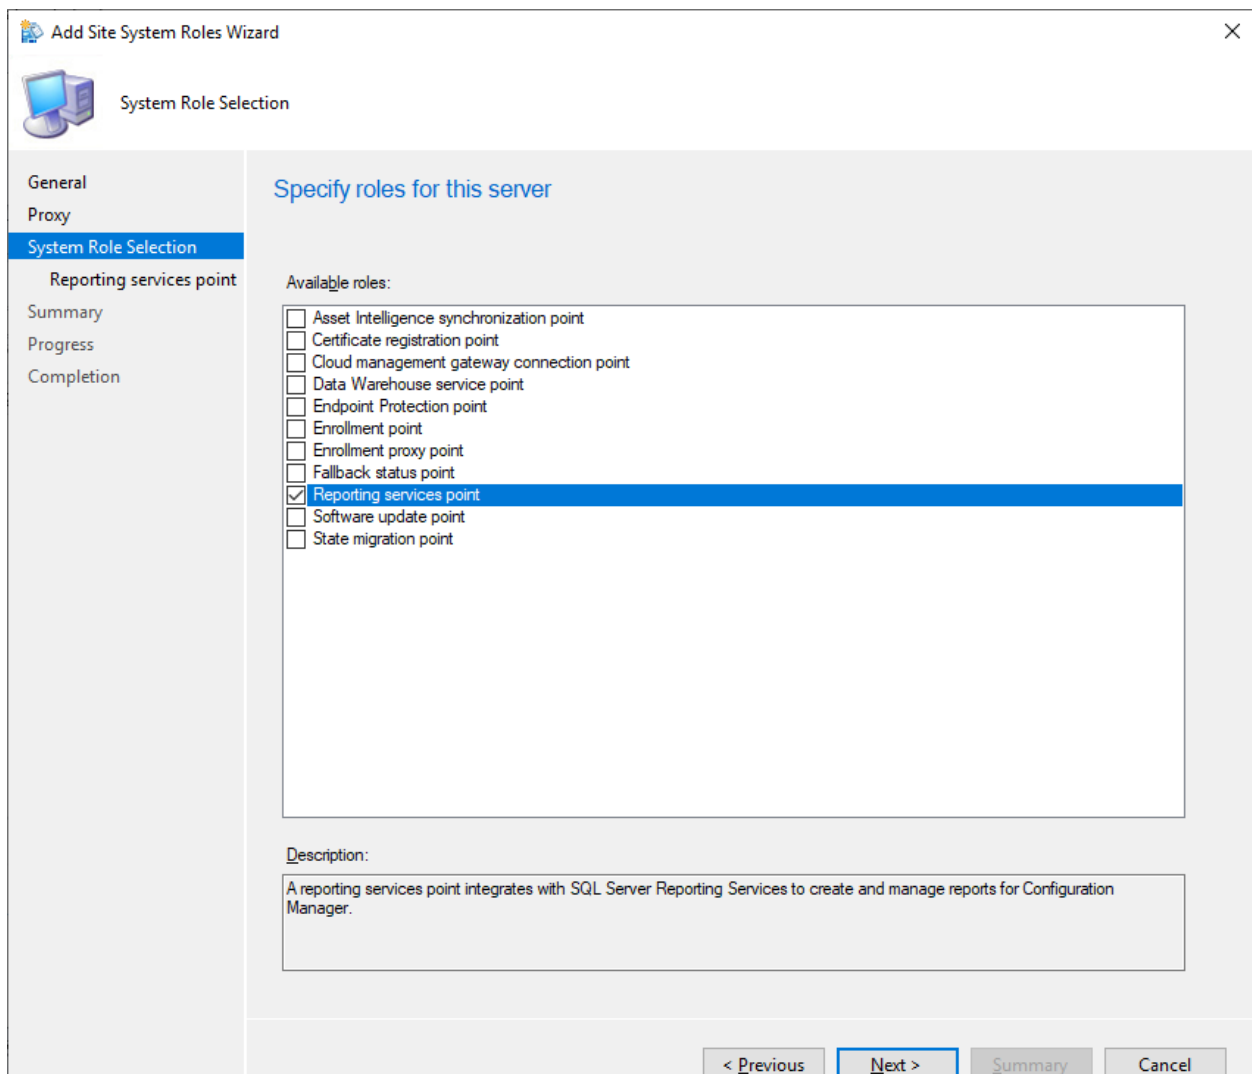

Figure 132: Reporting services point role
- 3) Site server needs to have "Reporting services point" role as shown in Figure 132